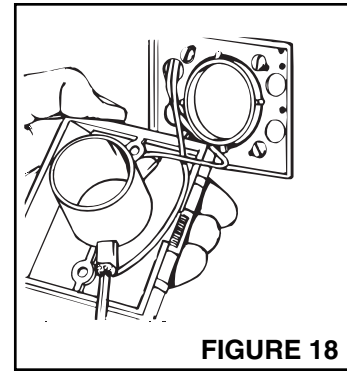

FIGURE 18
3. Refer to Figure 18. Connect 2-conductor low voltage wire to terminal screws on back of wall inlet. Cap off both wires using wire nut (supplied).